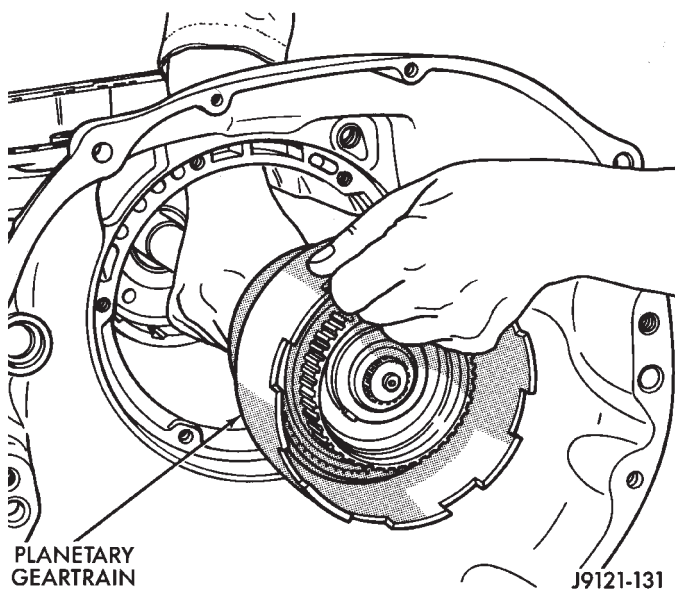

Fig. 21 Planetary Geartrain Removal
(33) Remove planetary geartrain as assembly (Fig. 21). Support geartrain with both hands during removal. Do not allow machined surfaces on output shaft to become nicked or scratched.